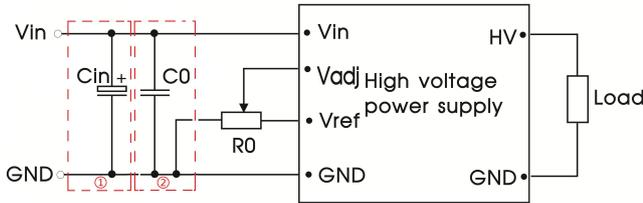

Fig.10 EMC compliance circuit
Notes: For EMC tests we use Part ① in Fig. 10 for immunity and part ② for emissions test. Selecting based on needs.